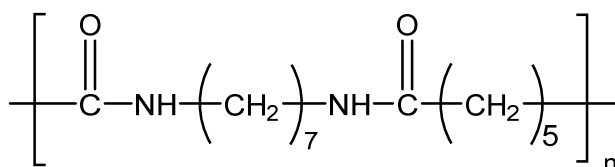

Figure 1: The repeat unit structures of two types of polymers.
- (1). (a). Write the chemical structures of the monomers used to produce each of the polymers shown in Figure 1.